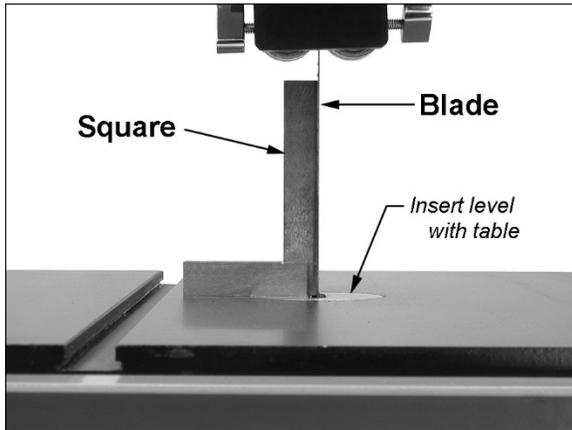

Figure 21: setting table stop
4. Make sure table insert lies flush with table surface. Place a square on table and against blade to check that table is 90° to blade. See Figure 21. *NOTE: Do not push square into blade.*
5. If table and blade are not square, use a 17mm wrench to loosen lock nut (E) then rotate stop bolt. Turn stop bolt as needed until there is no longer light showing between square and blade.
6. Tighten lock nut (E) to secure table stop position.
7. Tighten lever (A).